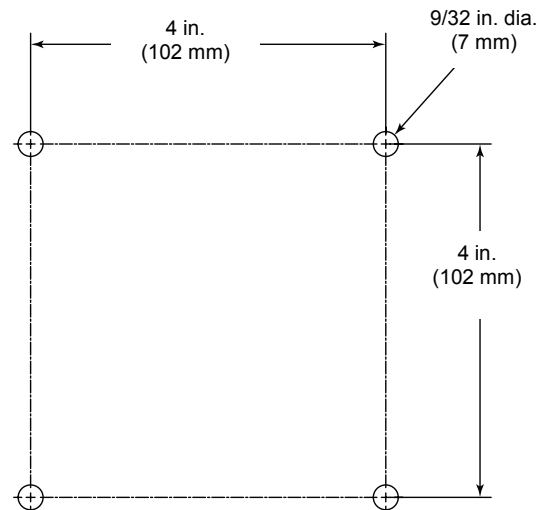

Figure 3 *Series 8HPH Mounting Dimension Guide*
3. Drill holes in workbench using the dimension guide in Figure 3.